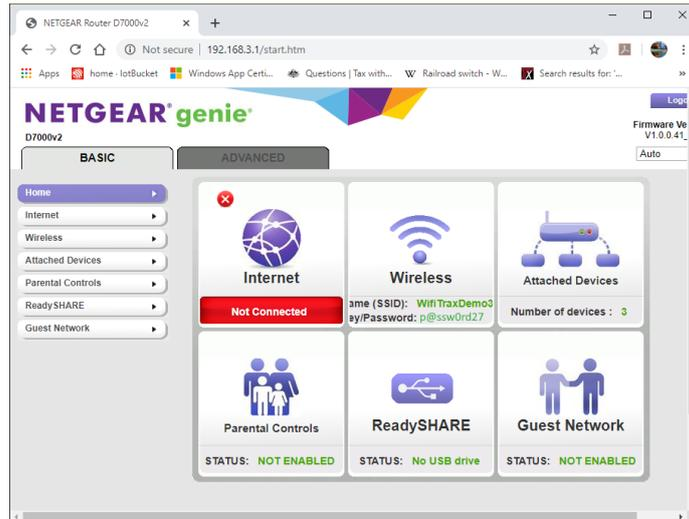

Figure 95 A typical router admin page
- (5) Once you have given the credentials, you will see the admin page. A typical one is shown in Figure 95. Find the “Attached Devices” option and click on it.